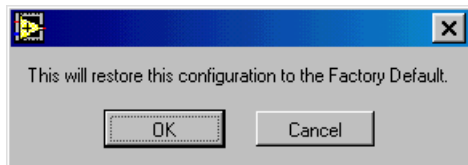

Figure 10-8. Restore Factory Defaults Message Box
- **Restore Factory Defaults** — This option restores the Factory Default configuration settings for the DS1 or E1 output module. Before restoring the settings, the LMT software asks you to confirm that you want to replace the current settings with the Factory Default settings. Click **OK** in the message box (Figure 10-8) to restore the Factory Default settings and update the module status display. Click **Cancel** in the message box to close the message box without restoring the Factory Default settings.